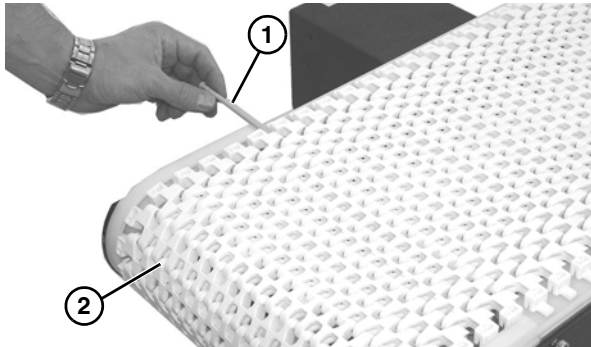

Figure 24
1. Use a punch and hammer to push the belt rod (Figure 24, item 1) out by striking the rod end opposite the retaining head.
2. Slide the old belt (Figure 24, item 2) off the conveyor frame.